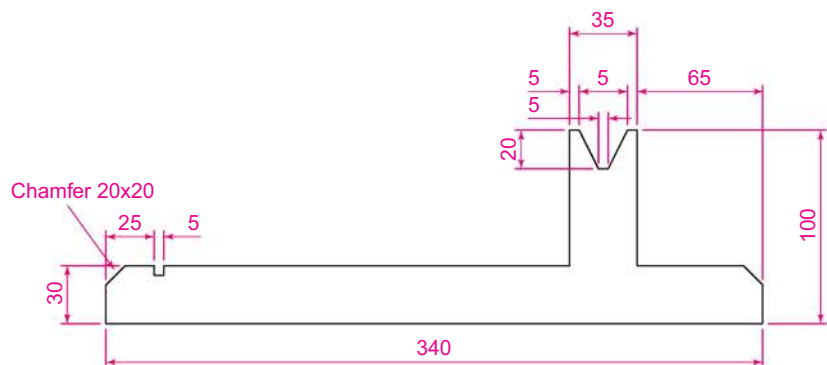

Fig. 10.12 Third example – outline for solid of revolution
3. In the **Front** viewport (top left-hand), construct a pline outline to the dimensions in Fig. 10.12.